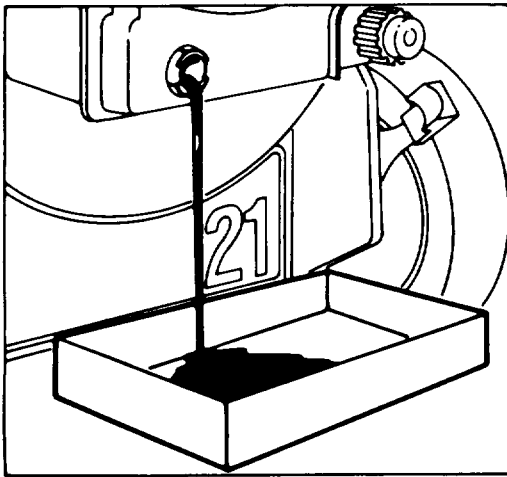

Figure 11
3. Remove dipstick. Tip mower forward and empty all oil into drain pan (Fig. 11). Tip mower down and up a few times to ensure oil drains completely.